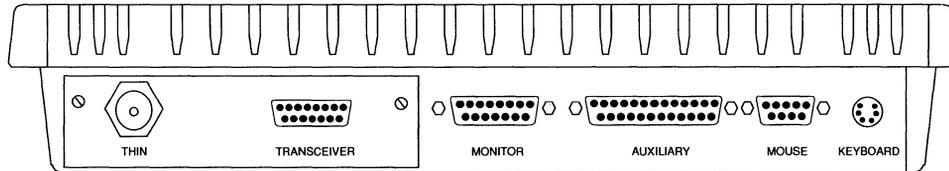

Figure 2-17. Base Unit Connector Locations
1. As shown in Figure 2-17, connect the BNC "T" connector to the thin coaxial network cable at an appropriate location on the cable.